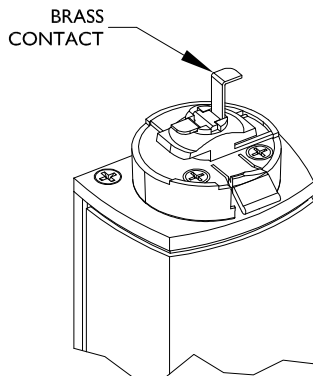

FIG. 3
1. Raise BRASS CONTACT to high position by pulling CONTACT as high as stop permits (See FIG.3)